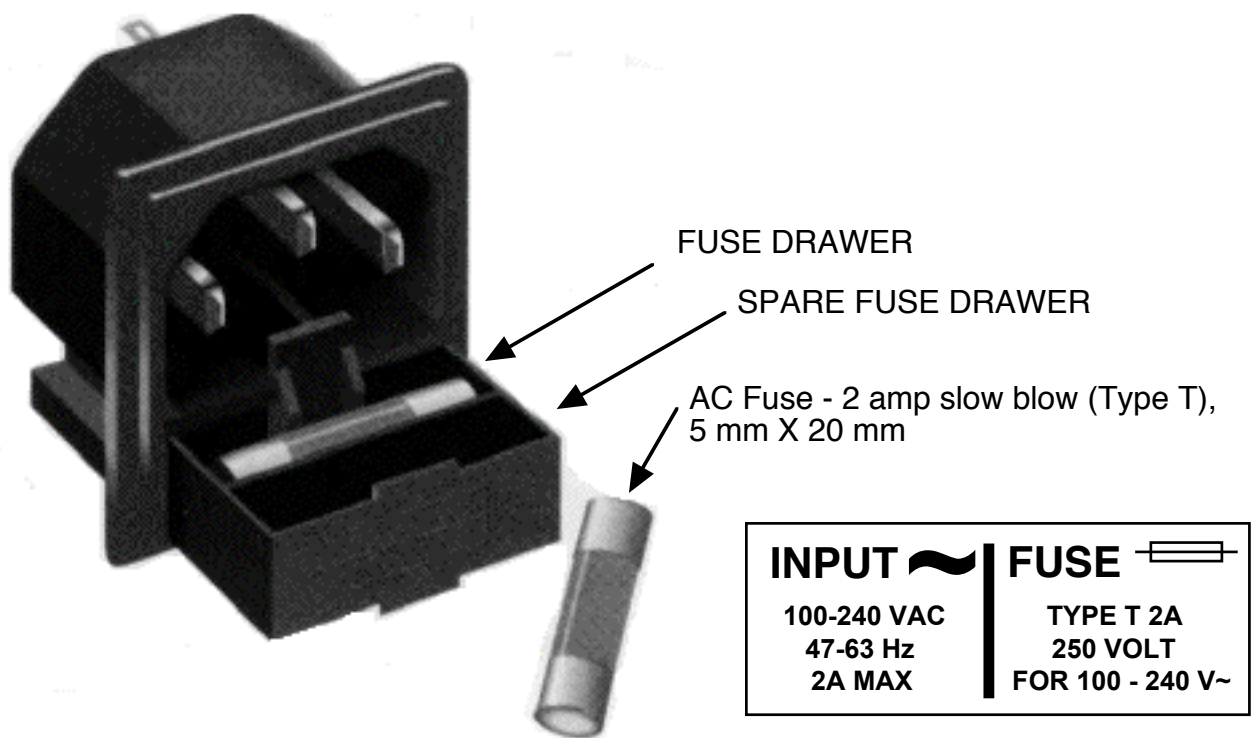

FIGURE 2.3 Fuse Location and Spare Fuse
8. AC Fuse - The fuse is a 5 mm X 20 mm, 2 amp slow blow (Type T) and is inserted in the far slot in the drawer below the AC input as shown in Figure 2.3. There is a spare fuse in the near slot. If a fuse continues to open, the power supply is most likely defective.